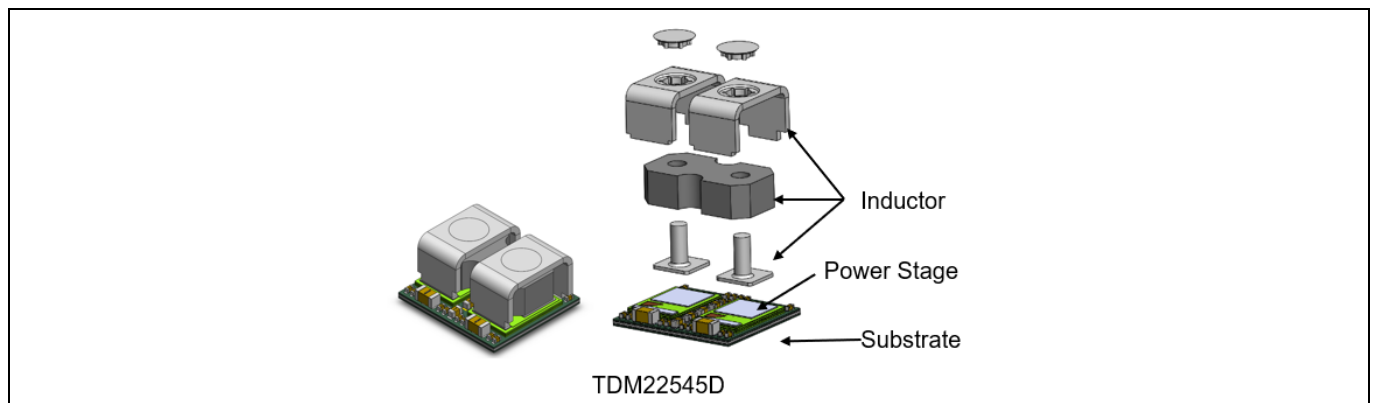

Figure 1 Dual-phase power module example (TDM22545D shown)
The 9 mm x 10 mm dual-phase power stage modules from Infineon consist of passive components (capacitors, inductors, resistors) and chip embedded (CE) power stages mounted on a substrate (Figure 1). The module is manufactured using lead-free solder and offered in an open frame format. The module does not contain glues or other adhesives to hold components fixed to the substrate.